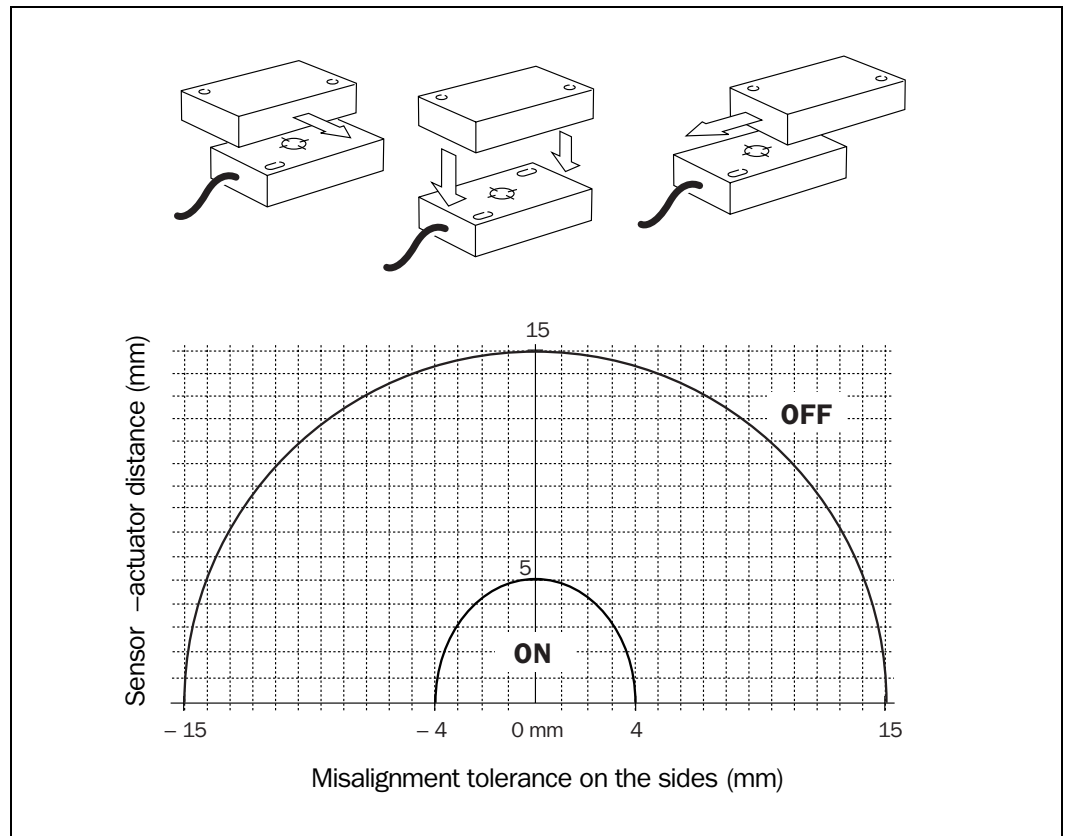

Fig. 1: Possible operating positions, max. offset tolerance for installation on non-ferromagnetic materials, switch-off point
- Refer to Fig. 1 for the different operating positions.